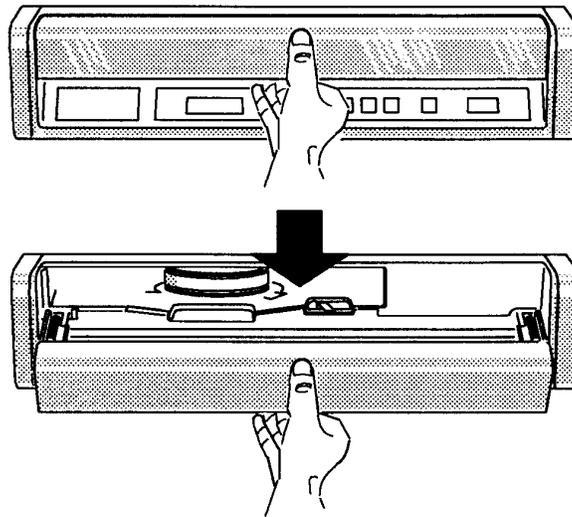

Figure 3-4 Opening the Door
1. Open the front door by pulling it toward you as shown in Figure 3-4.